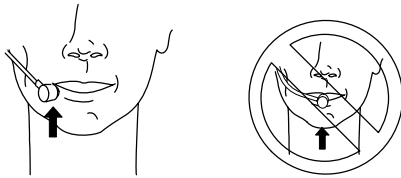

FIGURE 5. HEADSET MICROPHONE POSITION
2. Position the microphone over the corner of your mouth, about 1/2 inch away. See Figure 5.